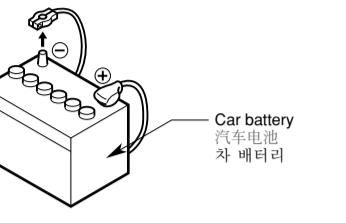

Figure 1 / 图 1 / 그림 1
- Be sure to disconnect the battery "(-)" terminal before starting. This is to prevent short circuits during installation. (Figure 1)
- 开始之前请务必断开电池的“-”端子，以免在安装中造成短路。(图1)